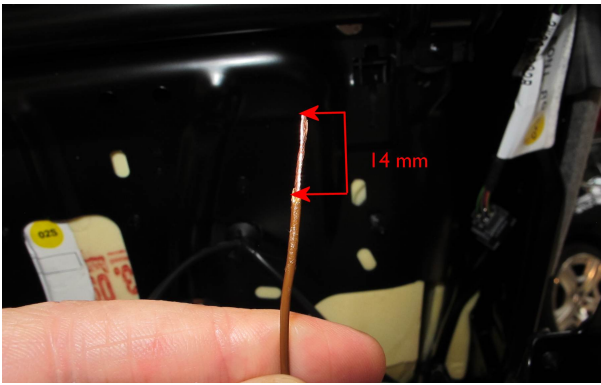

Figure 17
- Referring to Figure 17, remove 14 mm of cable insulator from all four cable ends